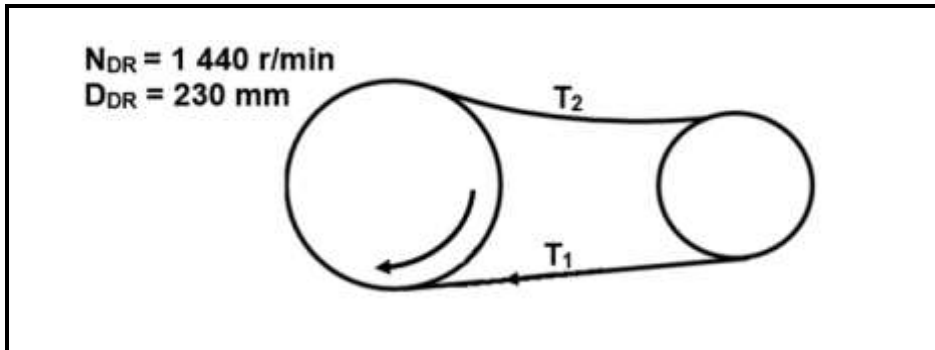

FIGURE 2
FIGURE 2 below shows a belt drive system with a 230 mm driver pulley rotating at 1 440 r/min. The effective tensile force in the system is 165 N.
With reference to Figure 2 above, determine in 7.1 and 7.2 by means of calculations:
8.1 Determine the direction of rotation of driven gear **C** if driver gear **A** rotates clockwise, as indicated in FIGURE 2.